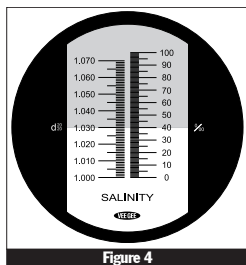
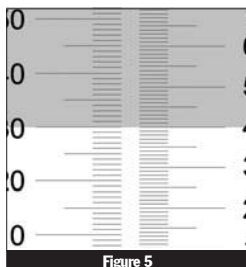

Figure 4
Figure 5
- 4 When the refractometer scale is viewed through the eyepiece, the upper field of view will be seen as blue and the lower field will be seen as white (Figure 4). The reading is taken at the point where the boundary line of the blue and white fields crosses the scale (Figure 5). The value (either permillage or specific gravity) is the salinity level of water.